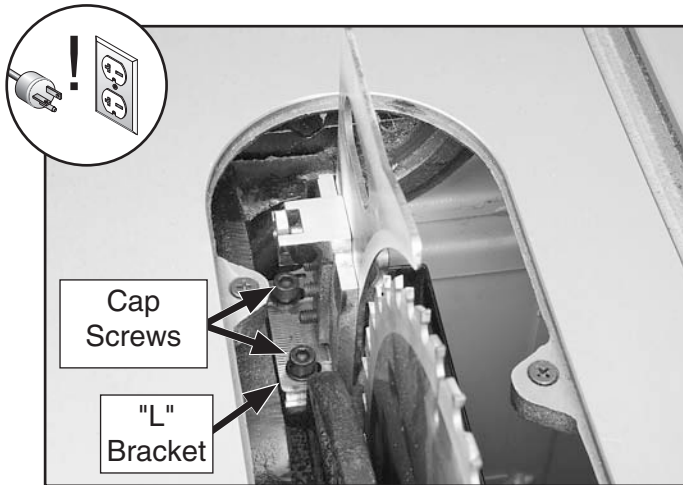

Figure 112. Cap screws for adjusting spreader/ riving knife position.
- Loosen the two cap screws on the "L" bracket (see **Figure 112**), then slide it as needed to move it into alignment with the blade.